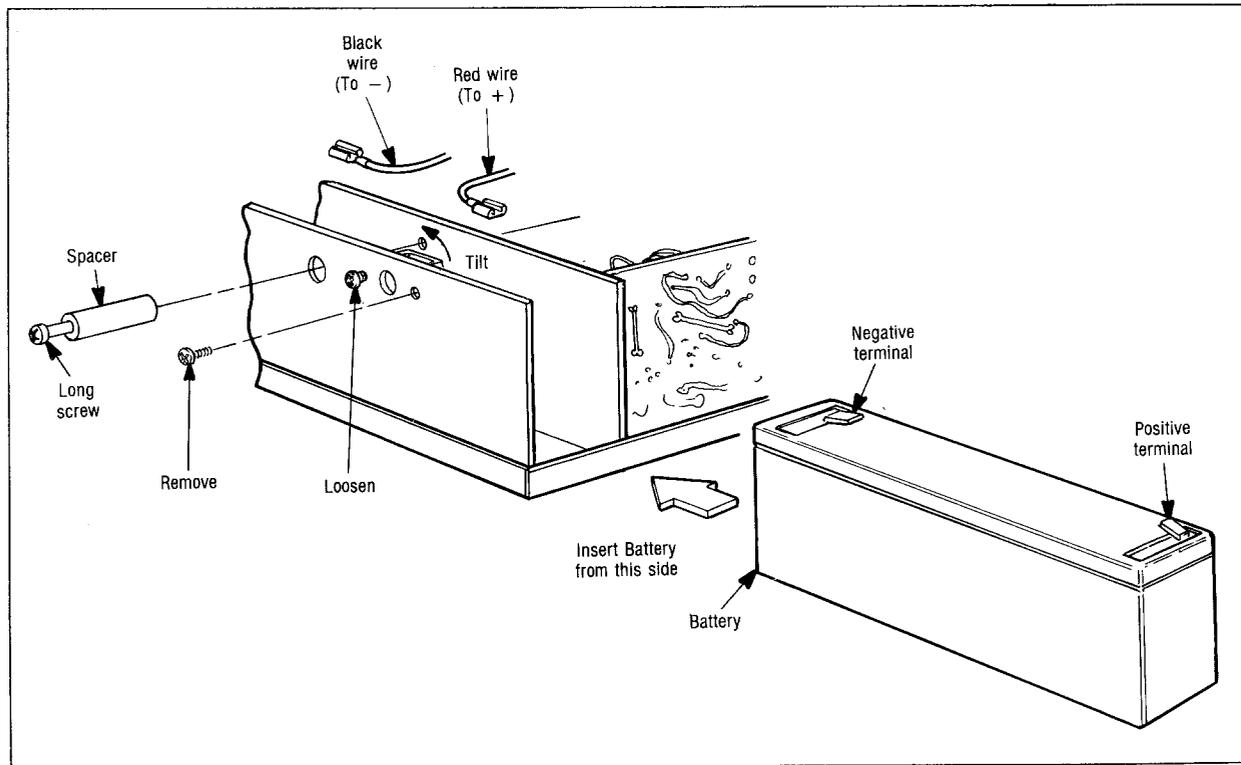

Fig. 3. Battery Installation
BATTERY INSTALLATION (refer to Fig. 3)
6. Slide the battery into position under the connectors so that the positive (red) terminal is located to the right as shown in Fig. 3. Be sure not to damage any wires.